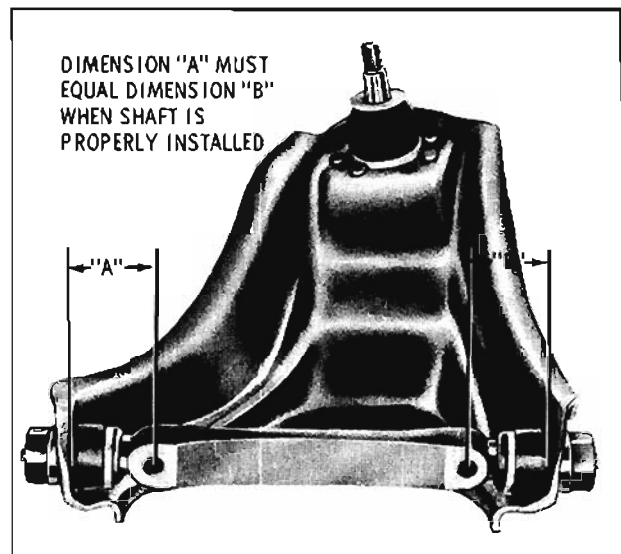

Fig. 9-127 Centering Inner Control Arm Shaft
If arm and shaft are being replaced new as an assembly, center shaft in arm as shown in Fig. 9-127 before attaching to frame.
3. Center shaft in arm. (Fig. 9-127)
5. Install the two bushings. Center the shaft in the arm as shown in Fig. 9-127.